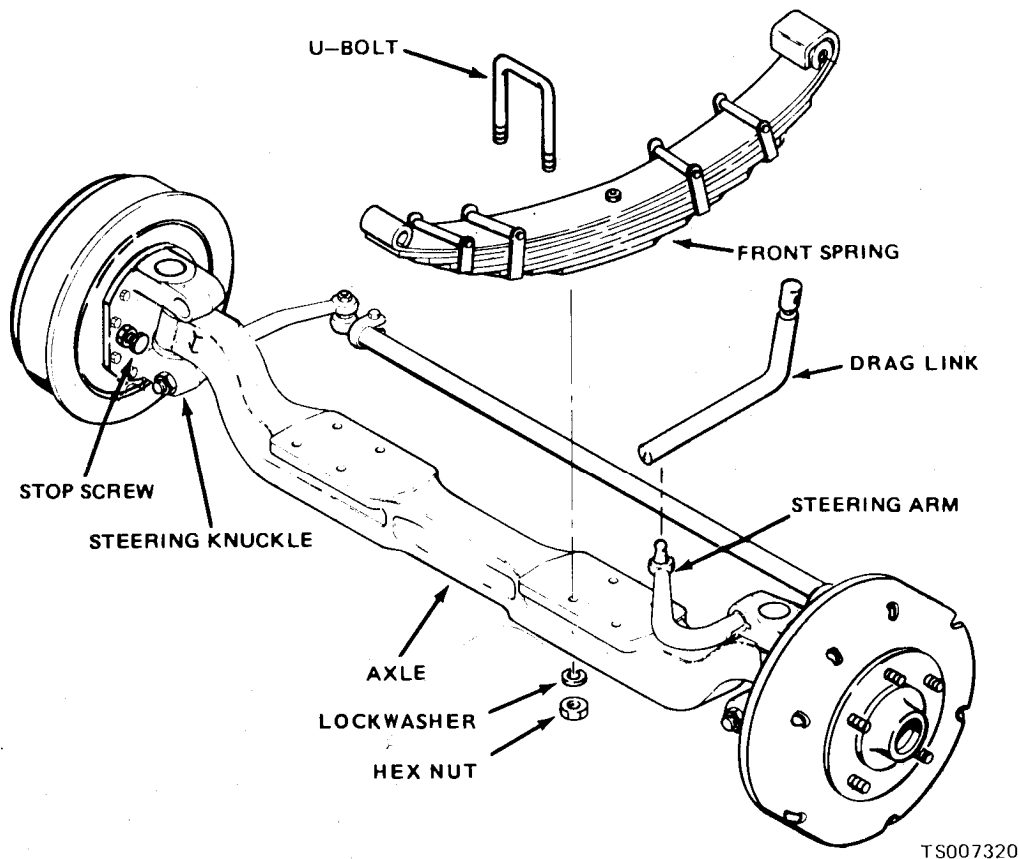

Figure 2-5. Front Axle Removal.
(4) Disconnect drag link at steering arm ball stud by loosening threaded plug in drag link end. See figure 2-5.
(1) Place U-bolts over front springs (see figure 2-5),
(2) Support axle assembly so that it is held